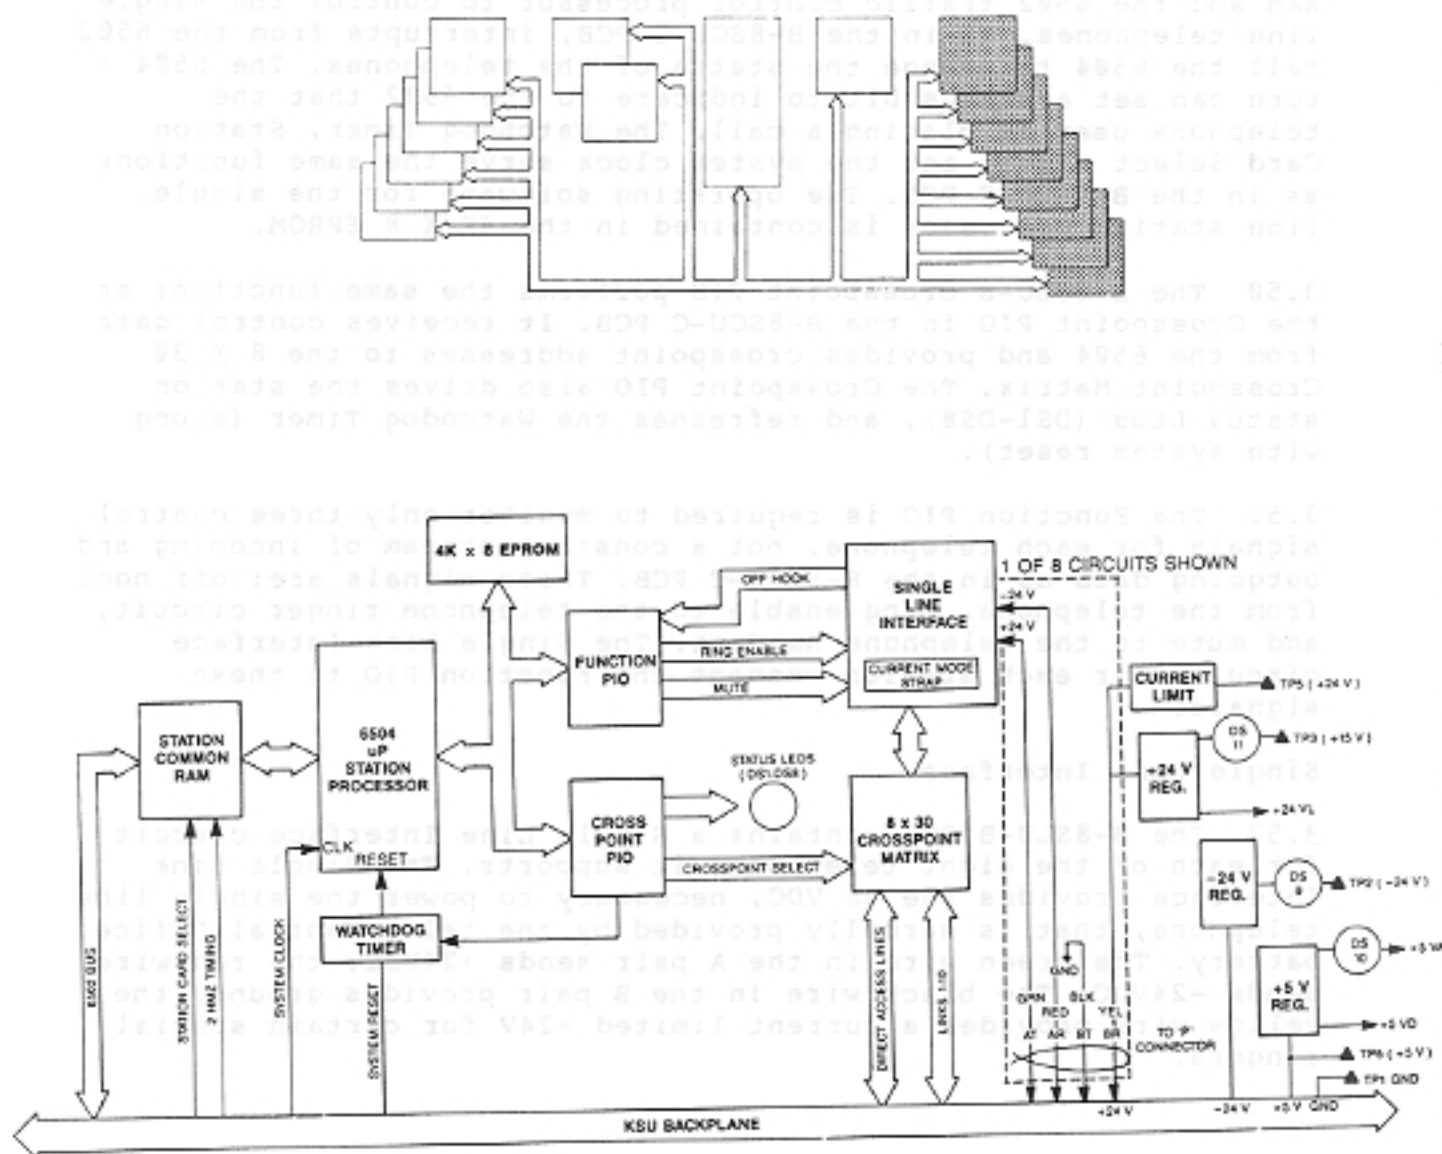

Figure 8-13 B-8SLU-B SINGLE LINE UNIT PCB BLOCK DIAGRAM, TCX-128
3.48 The B-8SLU-B PCB (Figure 8-13) is installed in place of the B-8SCU-C PCB if single line (2500 type) telephones are to be used. The B-8SLU-B PCB uses the same 6504 station processor, PIOs, Common RAM and crosspoint matrix as the B-8SCU-C PCB. The single line interface replaces the data receive/transmit circuits used for the key telephones. The B-8SLU-B PCB supports eight single line (2500 type) telephones. Since the single line telephone is not a data telephone, there is no requirement for repetitive polling of the stations.